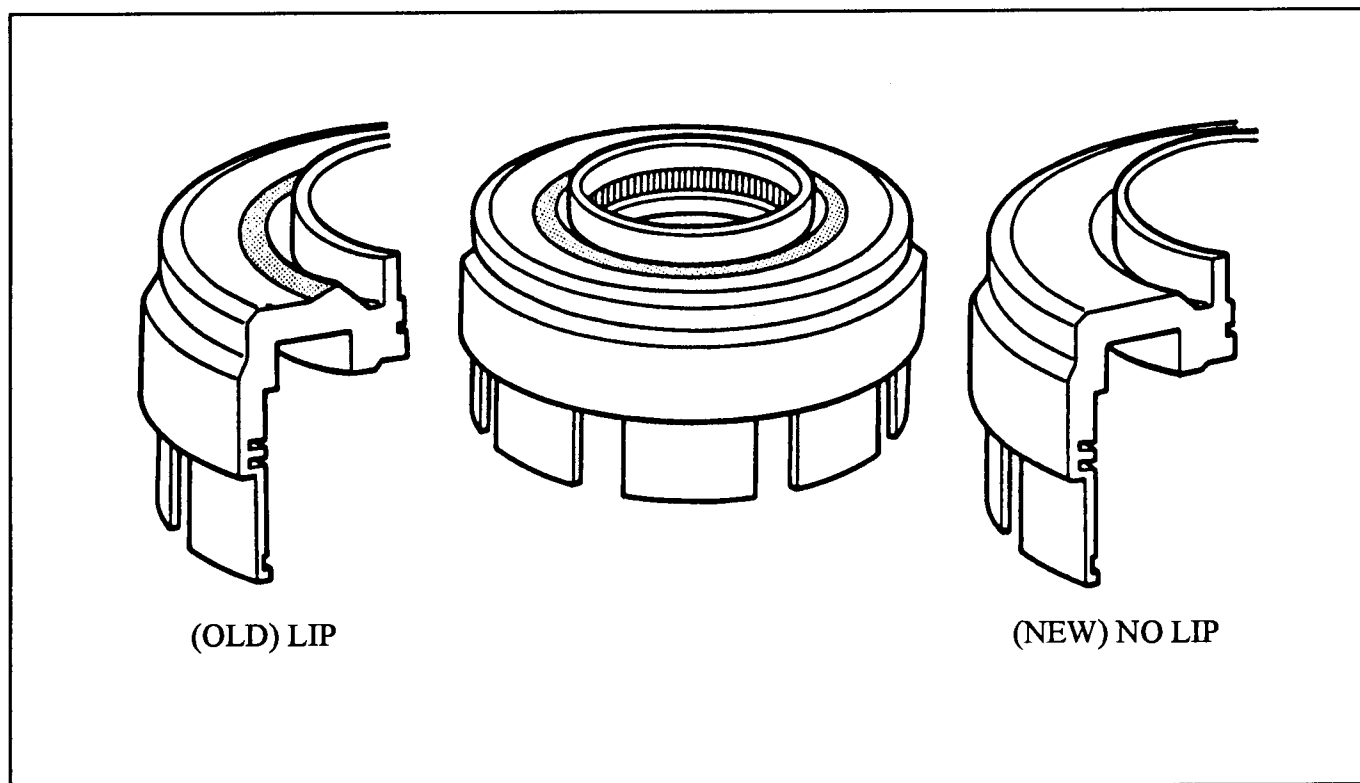

Figure 4
- (4) **INPUT CLUTCH RETAINER** - The Input Clutch Retainer was modified, by machining off the "Lip" (See Figure 4), to allow more travel of the overdrive/reverse piston. The old Input Clutch Retainer can be machined at the local machine shop if necessary.